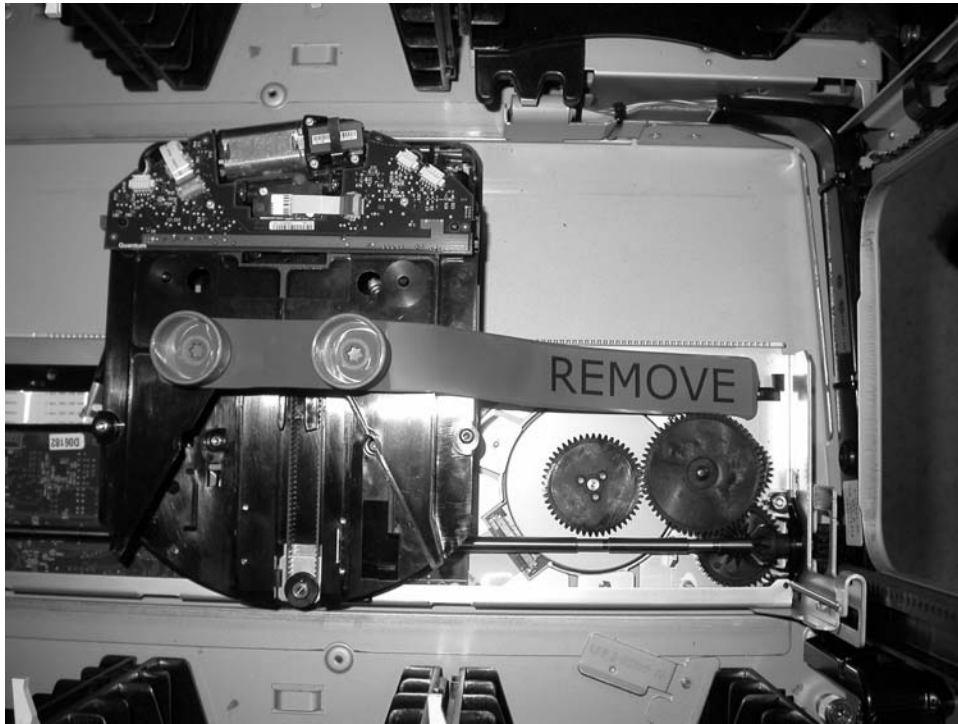

Figure 3-1. Original-style picker with internal packaging material
- a. For the original-style picker, remove the fastening strap (**1** in Figure 3-1) across the top of the picker packaging material.
- b. Remove the cardboard packaging material (**2** in Figure 3-1), the foam packaging material (**3** in Figure 3-1), and the small cardboard packaging material (not shown in picture).